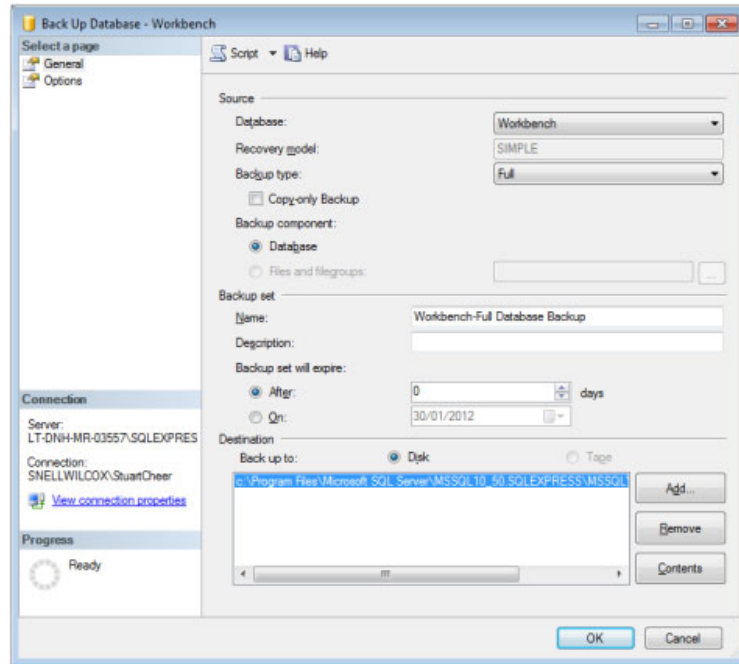

Figure 42 Backup Database - General Page
- 5. The Backup Database - Workbench screen is displayed (see Figure 42).